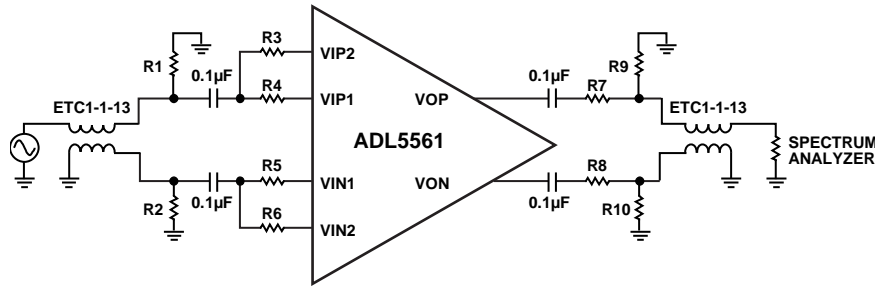

Figure 43. General-Purpose Characterization Circuit
**Table 10. Gain Setting and Input Termination Components for Figure 43**
**Table 11. Output Matching Network for Figure 43**